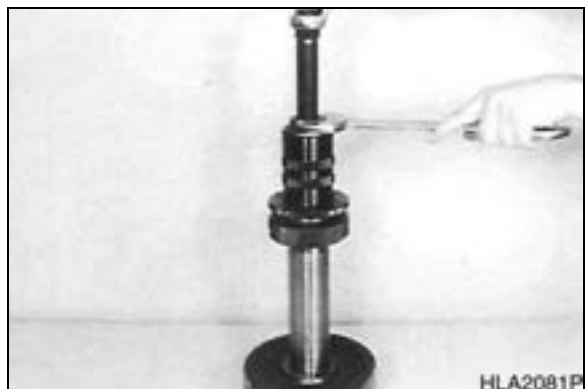

Figure 120
4. Pull inner bearing race from shaft (Figure 120).